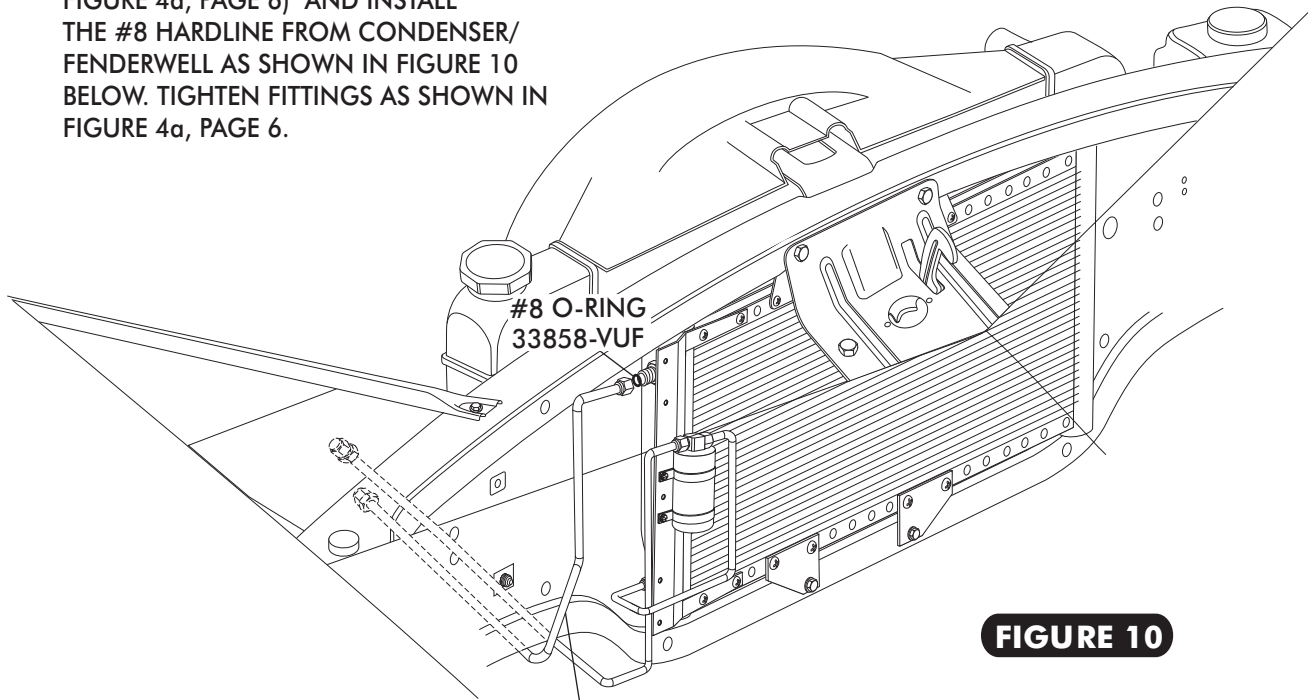

FIGURE 10
- LUBRICATE A #8 O-RING (SEE FIGURE 4a, PAGE 6) AND INSTALL THE #8 HARDLINE FROM CONDENSER/ FENDERWELL AS SHOWN IN FIGURE 10 BELOW. TIGHTEN FITTINGS AS SHOWN IN FIGURE 4a, PAGE 6.